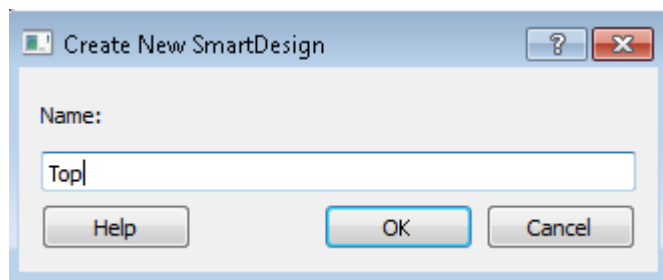

Figure 30 Create New SmartDesign Dialog Box
2. Enter **Top** as the **Name** and click **OK** to open the SmartDesign canvas, as shown in Figure 30.